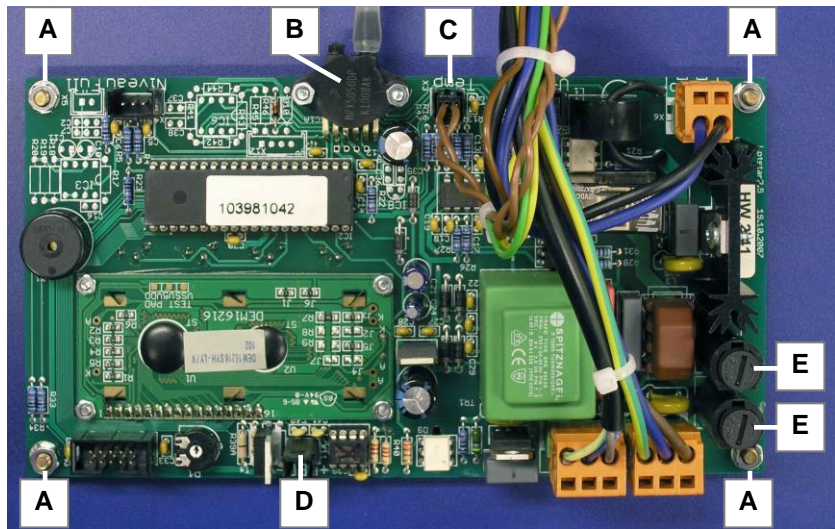

Fig. 6.7 Control board mounted
In case of a breakdown of the display check the fuses (*fig. 6.7.E*) on the circuit board.
3. Use a 7 mm fork wrench to unscrew the 4 fastening screws (*see fig. 6.7.A*).